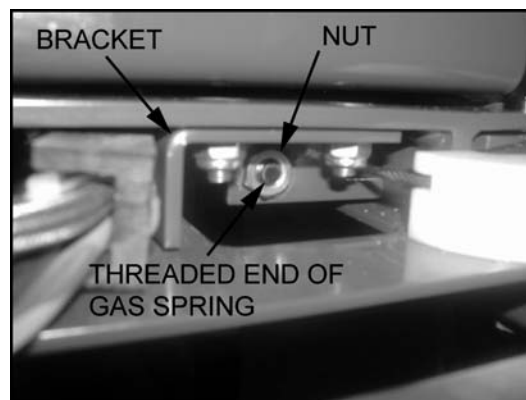

FIGURE 14
9. Refer to **FIGURE 14**. Align threaded end of gas spring into bracket hole then fasten to baseplate with nut.